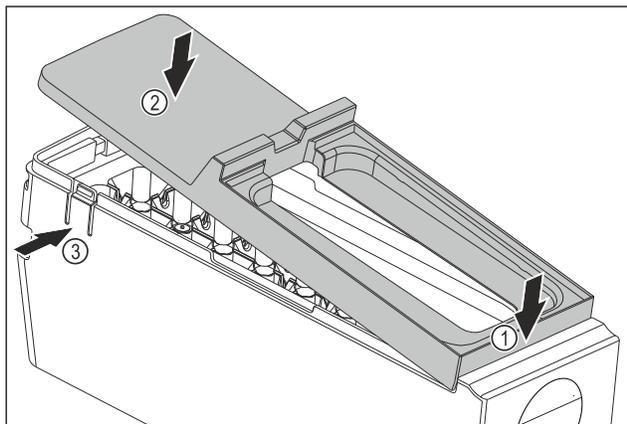

Fig. 157
- ▶ Installing the cover of the EasyTwist-Ice body: Fit the cover at the front. *Fig. 157 (1)*
- ▶ Lower the cover at the rear. *Fig. 157 (2)*
- ▷ The cover snaps audibly into place in both tabs *Fig. 157 (3)*.